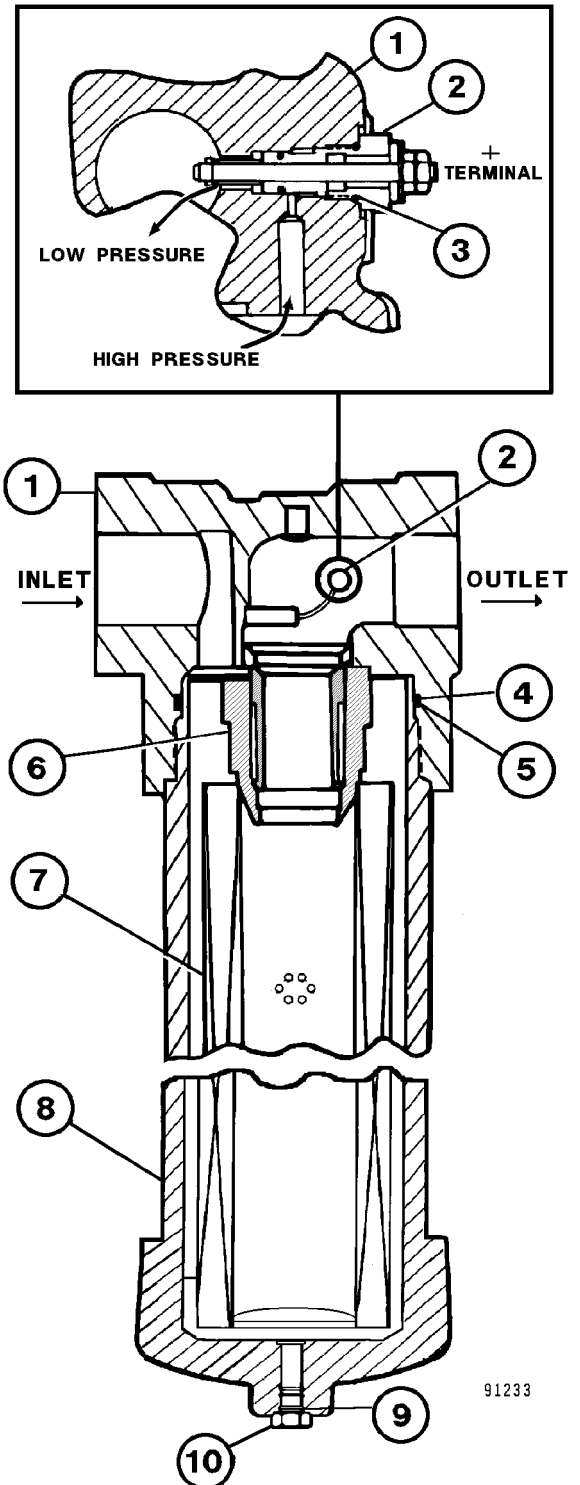

FIGURE 40-4. STEERING CIRCUIT FILTER
2. Remove plug (10, Figure 40-4) and drain oil from the housing into a suitable container.
1. Install new element (7). Install housing (8) and tighten.
2. Replace drain plug (10), and O-ring (9).
**NOTE:** The indicator switch (2, Figure 40-4) is preset to actuate at 241 kPa (35 psid) and is not repairable or adjustable. If the indicator switch is inoperative, replace the complete switch. Attempting to adjust the switch is not recommended.